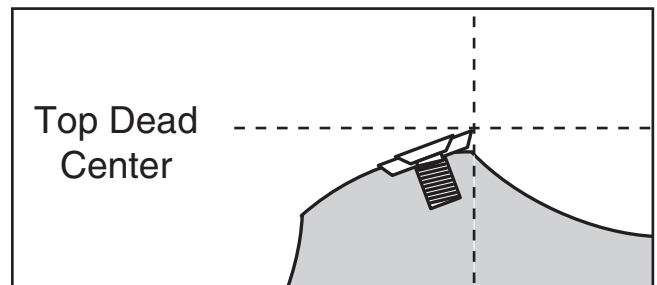

Figure 12. Cutter insert at top dead center.
4. Use the cutterhead pulley to rotate the cutterhead until one of the cutter edges at the front end of the cutterhead is at the highest point of rotation or top dead center (see **Figure 12**).